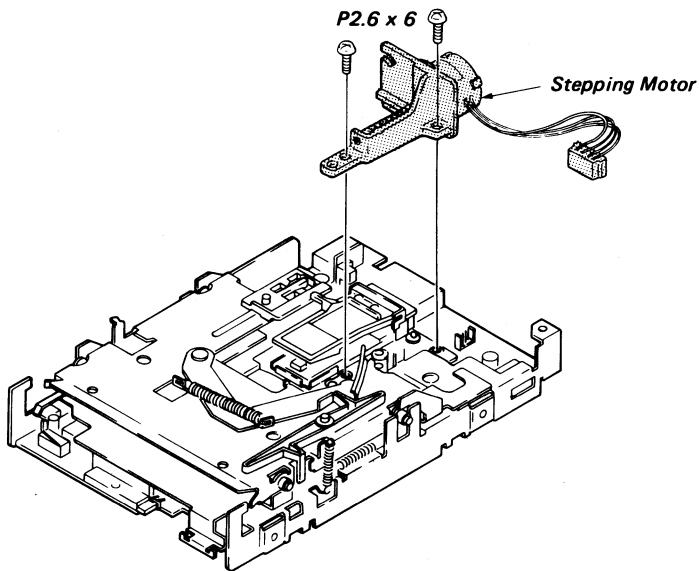

Fig. 4-8 Stepping Motor Replacement
- Remove the two screws (P2.6x6) securing the Stepping Motor. While lifting the head carriage ass'y a little, twist the Stepping Motor a little and separate the needle pin of head carriage ass'y from the lead screw of the Stepping Motor, as shown in Fig. 4-8. Don't apply any excessive force to the needle pin of head carriage ass'y.